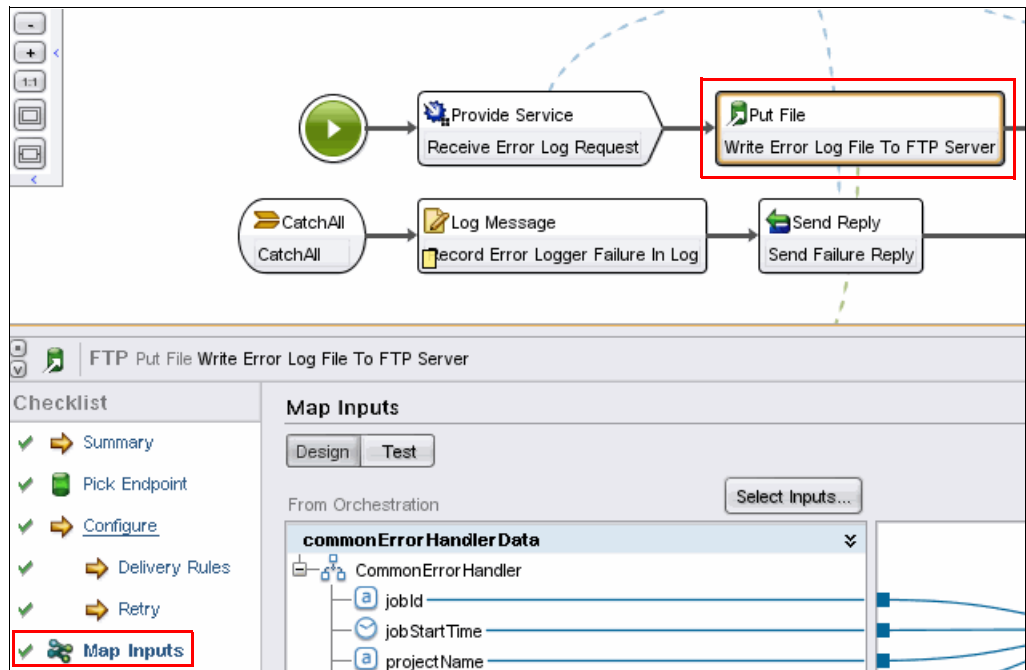
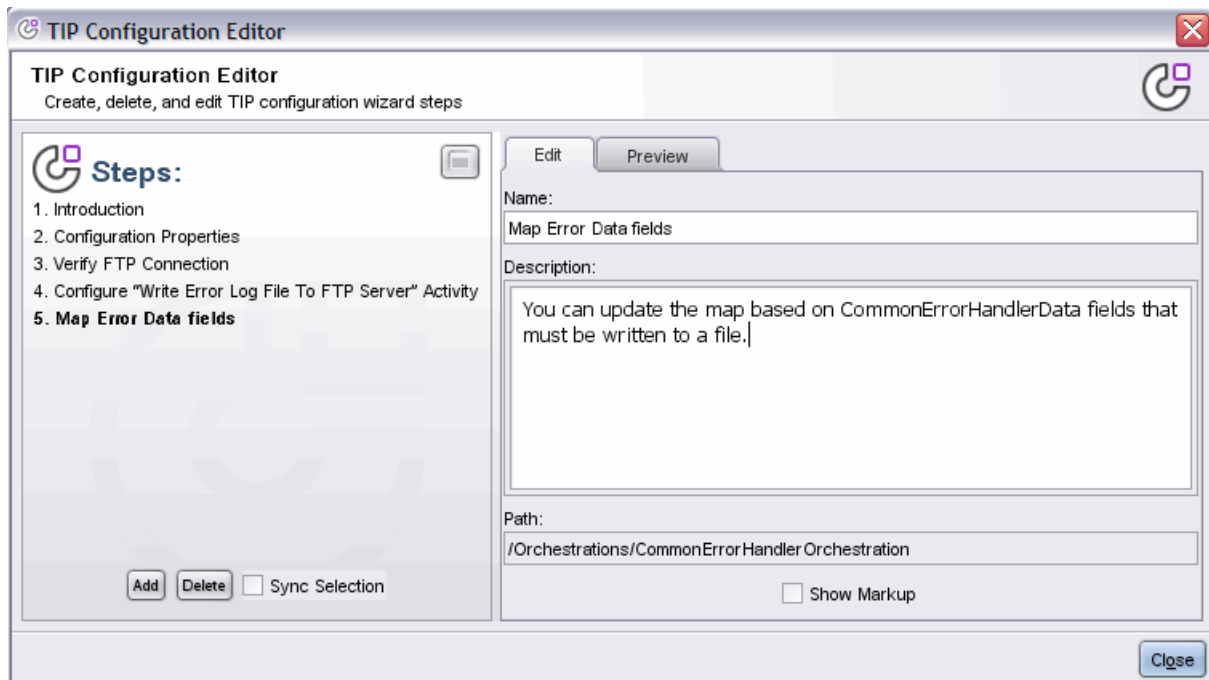

Figure 7-14 Select Map Inputs of the activity to drag to the steps
Figure 7-15 Map Error Data fields step
- a. Drag the Map Inputs task from the checklist of the "Write Error Log File To FTP Server" activity (Figure 7-14 on page 304) to the Steps panel (Figure 7-15 on page 304) to add a step with the name Map Inputs.
- c. Enter the instructions in the Description field, as shown in Figure 7-15.